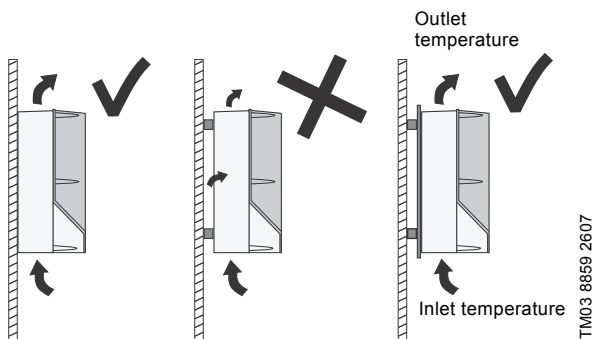

Fig. 37 CUE hung directly on the wall or fitted with a back plate
- Hang the CUE directly on the wall, or fit it with a back plate to secure sufficient air flow for cooling. See fig. 37.
$\Delta T$  is the difference between the outlet temperature and the inlet temperature (ambient) of the cooling air. See fig. 37.